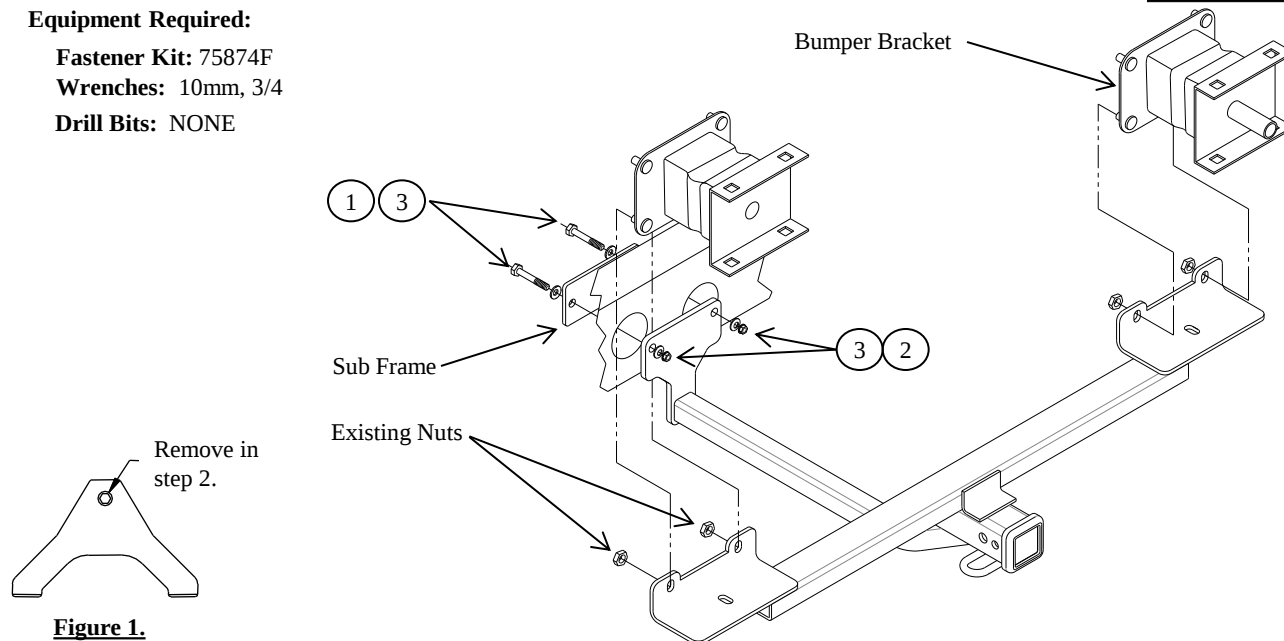

Figure 1.
①	Qty. (2)	1/2 -13 x 4.00 Bolt	③	Qty. (4)	1/2 Conical Washer
②	Qty. (2)	1/2-13 Hex Nut	④	Qty. (5)	Zip Ties
2. Remove the plastic fascia brackets (return to owner) shown in Figure 1. and the exhaust heat shield cover hardware, so shield can move freely above the exhaust.